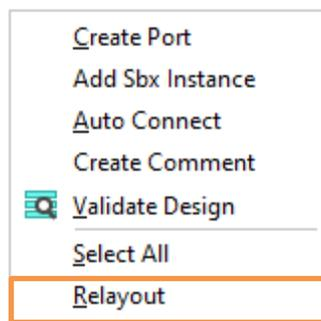

Figure 5.6. Relayout Option
6. (Optional) Right-click on the **Schematic** view and select **Relayout** if the new design is out of proportion (Figure 5.6).